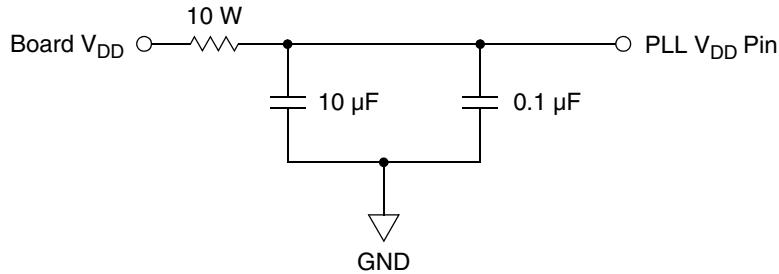

Figure 1. System PLL V_{DD} Power Filter
- ¹ V_{DD} and $PLL\ V_{DD}$ should be at the same voltage. $PLL\ V_{DD}$ should have a filtered input. Please see Figure 1 for an example circuit. Note: There are three $PLL\ V_{DD}$ inputs. A filter circuit should be used on each $PLL\ V_{DD}$ input.
To further enhance noise isolation, an external filter is strongly recommended for PLL analog V_{DD} pins. The filter shown in Figure 1 should be connected between the board V_{DD} and the PLL V_{DD} pins. The resistor and capacitors should be placed as close to the dedicated PLL V_{DD} pin as possible.